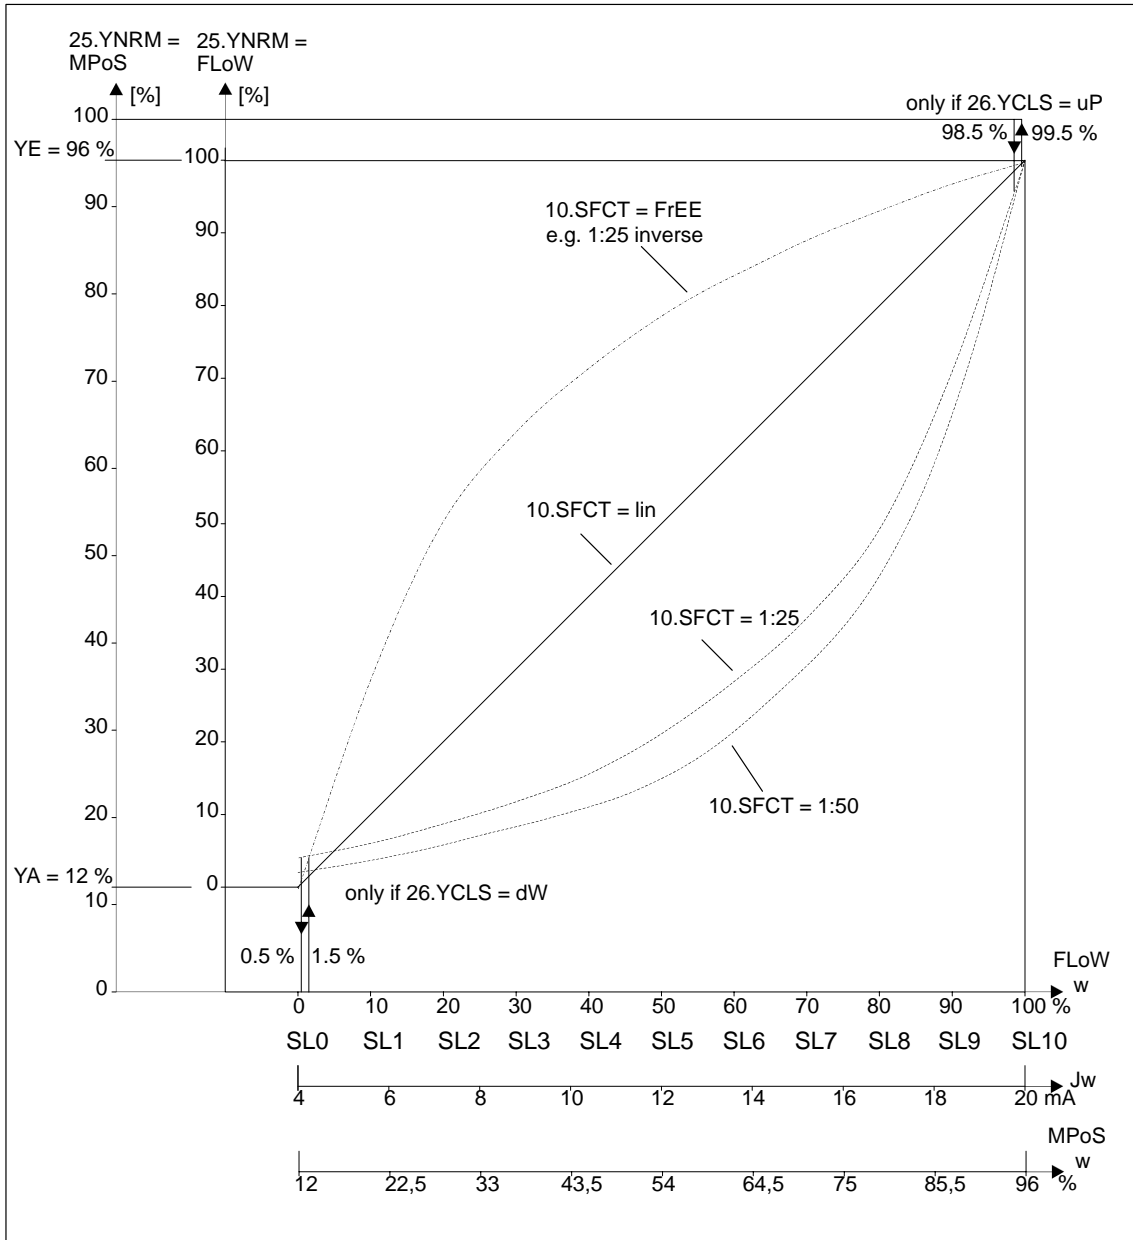
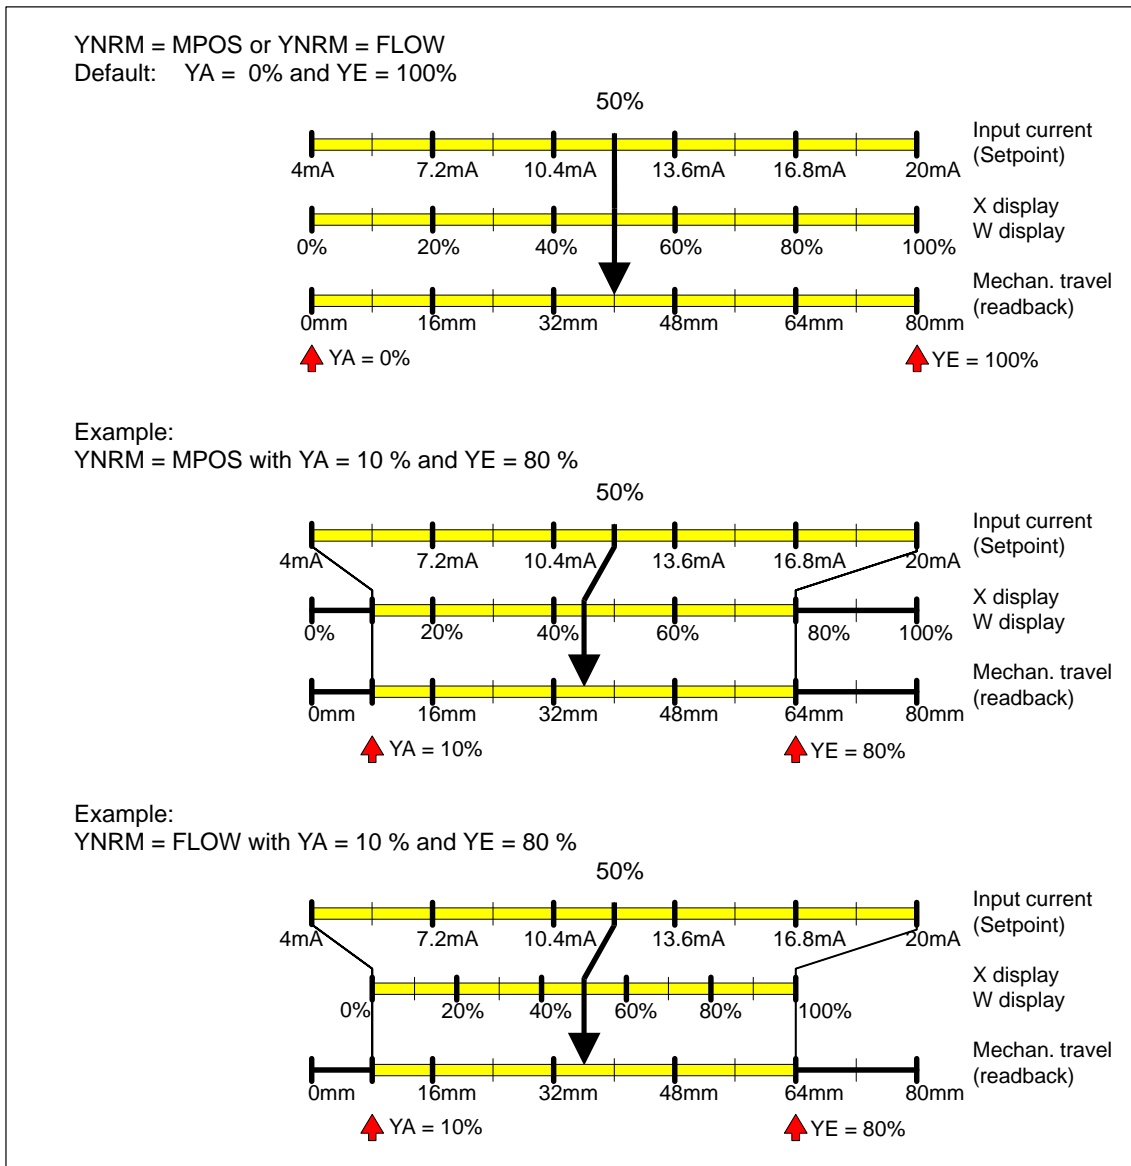

Fig. 4-6 Setpoint characteristics, normalization of the manipulated variables and tight closing function
Fig. 4-7 Dependence of travel on normalization and YA and YE as shown by an 80 mm linear actuator.
Setpoint function (see Fig. 4-6)
Setpoint turning points (see Fig. 4-6)
- 23.YA** Start of manipulated variable limiting (see Fig. 4-6 and Fig. 4-7)
- 24.YE** End of manipulated variable limiting (see Fig. 4-6 and Fig. 4-7)
- 25.YNRM** Normalization of manipulated variable (see Fig. 4-6 and Fig. 4-7)
Tight closing with manipulated variable (see Fig. 4-6)